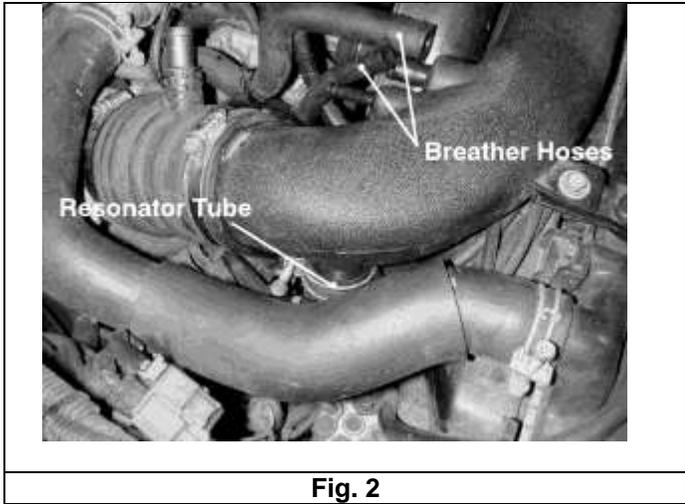

Fig. 2
- d. Disconnect the resonator tube from the underside of the intake tube. This tube is used for noise suppression in the stock intake system and will not be used with the AEM[®] intake system. (Fig. 2)
- e. Disconnect the two breather hoses from the intake tube. Do not lose the hose clamps. (Fig. 2)